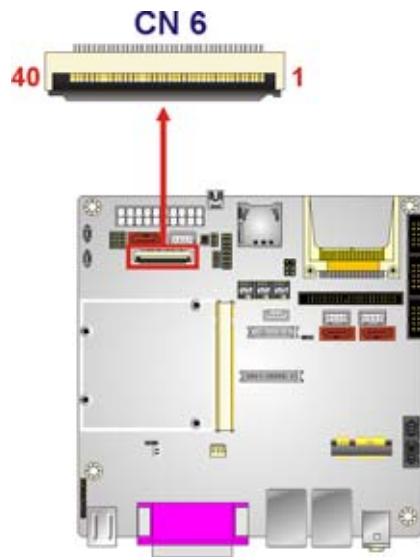

Figure 4-9: CPU Module to Baseboard IDE Connector Location
- CN Location:** See Figure 4-9